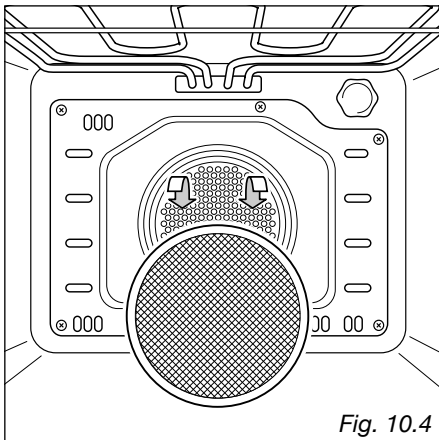

Fig. 10.4
- Slide in the grease filter on the back of the oven as in fig. 10.4.
The grease filter can be removed for cleaning and should be washed regularly in hot soapy water (fig. 10.4).